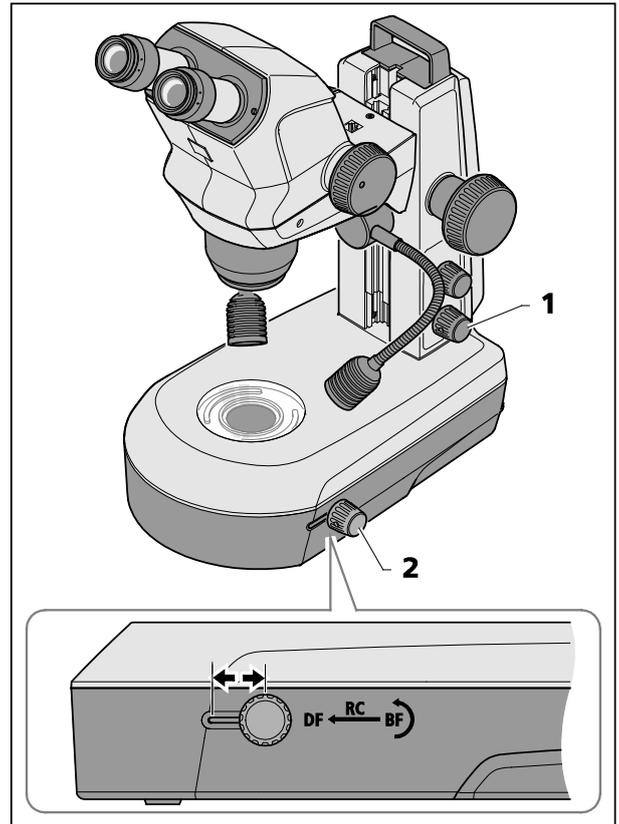

Fig. 20 Transmitted-light unit in stand K LAB
- Switch transmitted-light illumination ON by pressing the lower knob (Fig. 20/1).
- Adjust the bright field (BF) by pushing the sliding knob (Fig. 20/2) into its rear position (BF).
- Turn the rotary knob / slider (Fig. 20/2) to swing the clear or diffuse mirror in position or to adjust the inclination angle.
- Change over to dark field illumination (DF) by pushing the rotary knob / slider (Fig. 20/2) into its front position.
Oblique light effects (RC) are produced by pushing the rotary knob / slider (Fig. 20/2) into its central position and by tilting the mirror.